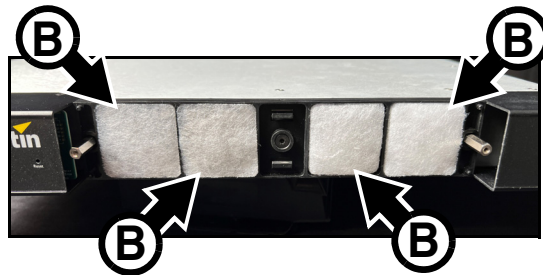

Figure 9: Replacing air filters, P3-175
3. See Figure 9. You can now see the air filters. Remove the used filters **B** and insert the new filters in their place.